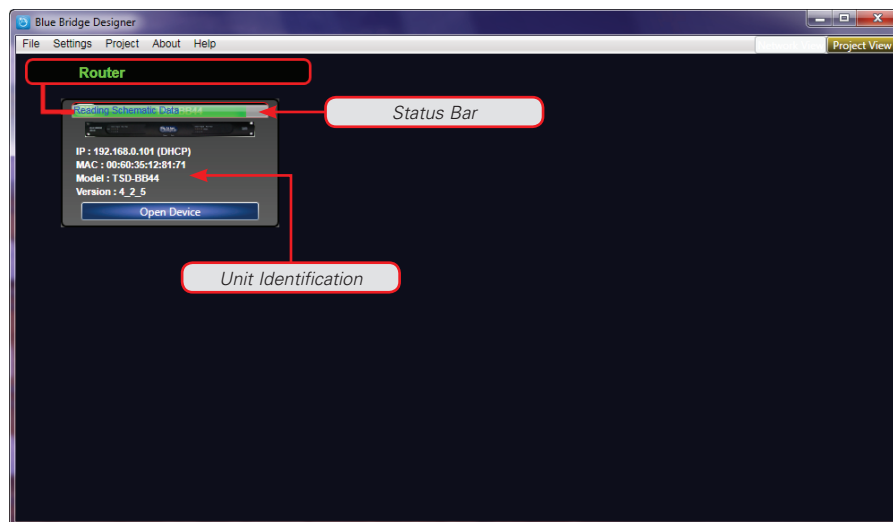

Figure 8
- In the Network View, the device can be identified by IP address, MAC address, model #, or Firmware Version as shown in Figure 8.
- The window will show the status bar and then the device will appear and indicate the upload progress as shown in Figure 8. **Note:** It is possible for it to take few minutes to detect the device. If it does not detect the device, reset (cycle) the power to the device by unplugging the power cable and waiting 30 seconds before plugging it back in. The upload progress is only shown when the device is initially plugged into A/C power.